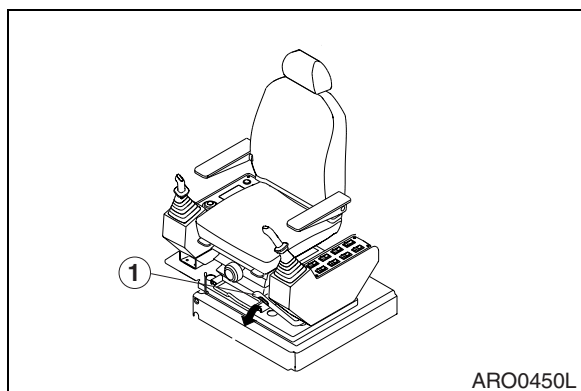

Figure 28
2. Set safety lever (1, Figure 28) on "RELEASE/UNLOCK" position, by pushing it down before starting work.